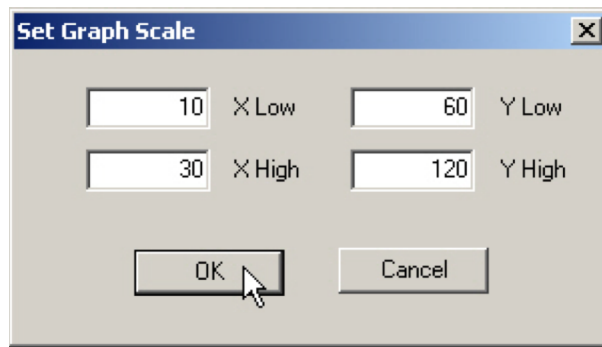

Figure 182 - Saving Scale Adjustments
2. Adjust the X axis and Y axis coordinates as necessary and click **OK** (*Figure 182*).